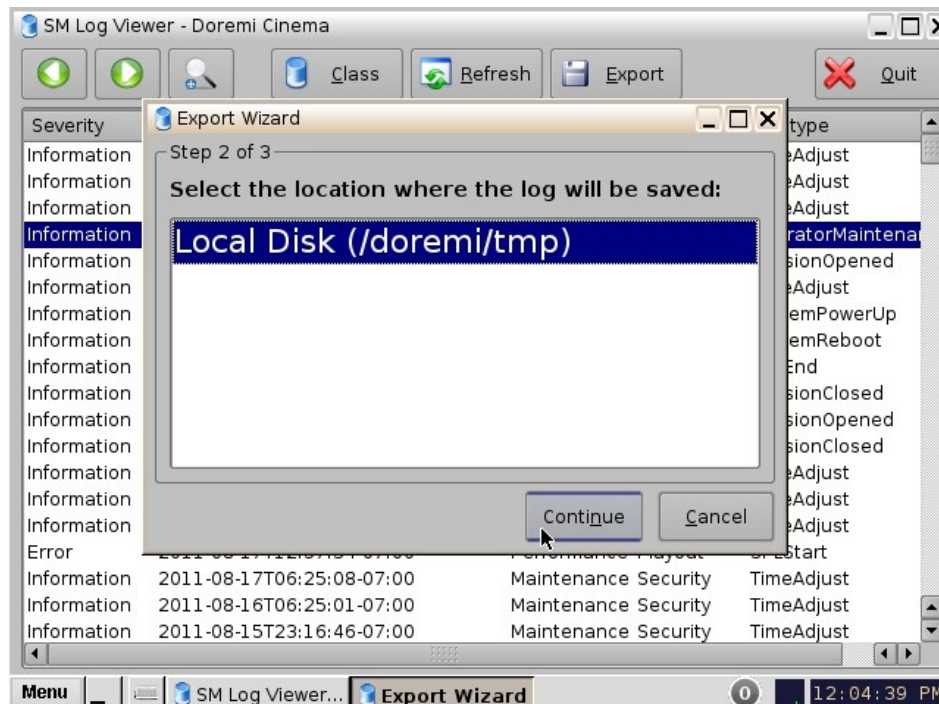

Figure 138: SM Log Viewer Log – Export
- Click the Continue button (Figure 138). The following window will appear:
- Select the location for where the log will be saved. Then click Continue to proceed (Figure 138).